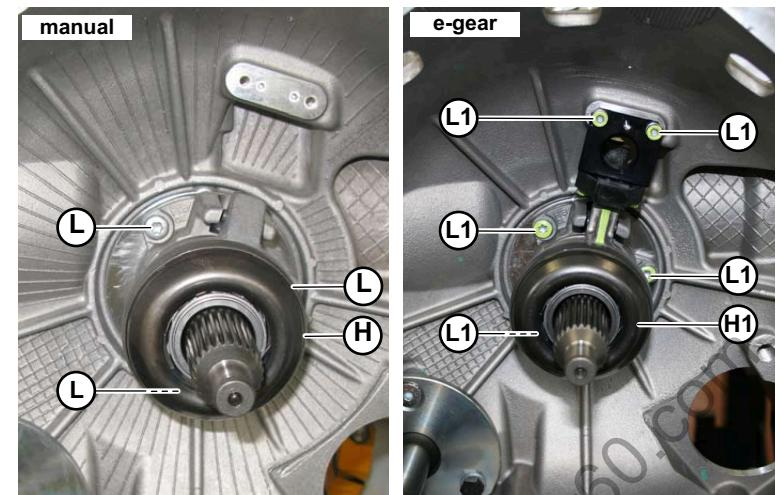

Fig.10
- Insert the clutch sleeve unit (**H-Fig.10**), sliding it along the ribbed shaft wrapped with tape, pressing on the sleeve.
- Tighten the three pins (**L-Fig.10**) and secure the clutch sleeve onto the clutch bell.
Tighten the five screws (**L1-Fig.10**) and secure the e-gear clutch sleeve onto the clutch bell.